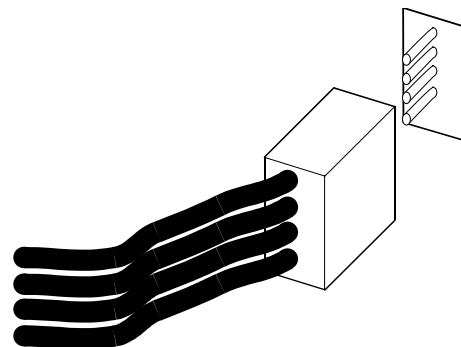

Figure 10: Wiring Connector
5. Turn the command center over and plug in the wiring connector through the opening in the back of the enclosure base (see *Figure 10*).